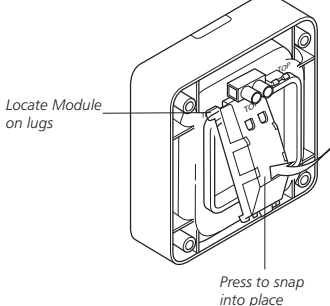

Figure 5
9. Locate and clip the appropriate switch modules into position on the front plate as shown in Figure 5.